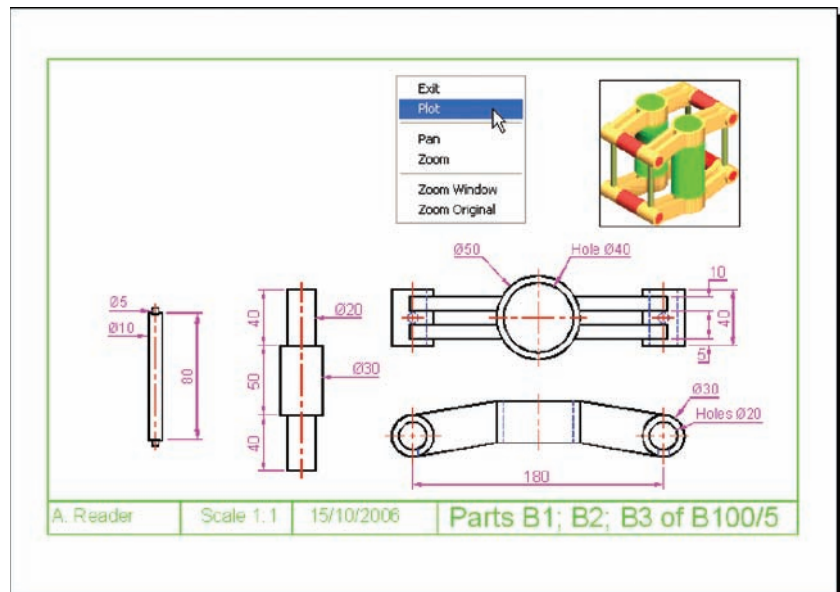

Fig. A.5 The Plot Preview window with its right-click menu
4. A preview of the drawing to be printed/plotted appears (Fig. A.5). If satisfied with the preview, *right-click* and from the menu which appears *click* **Plot**. If not satisfied *click* **Exit**. The preview disappears and the **Plot** dialog reappears. Make changes as required from an inspection of the preview and carry on in this manner until a plot can be made.